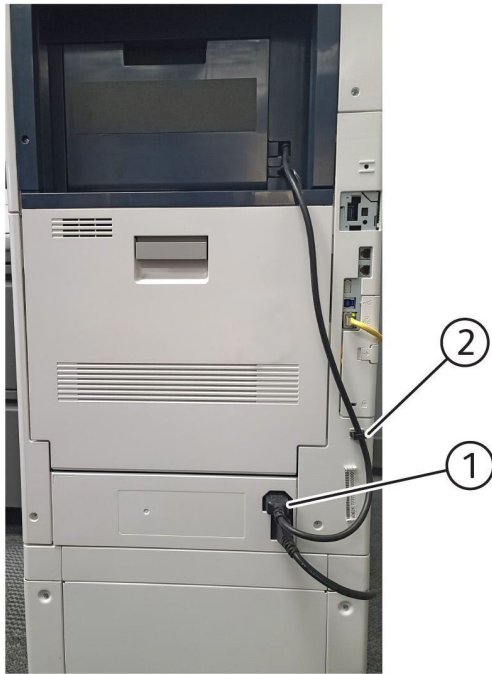

Figure 1 Release the harness
1. Disconnect the power cord (1) from the IOT, then release the harness clamp (2), **Figure 1**.